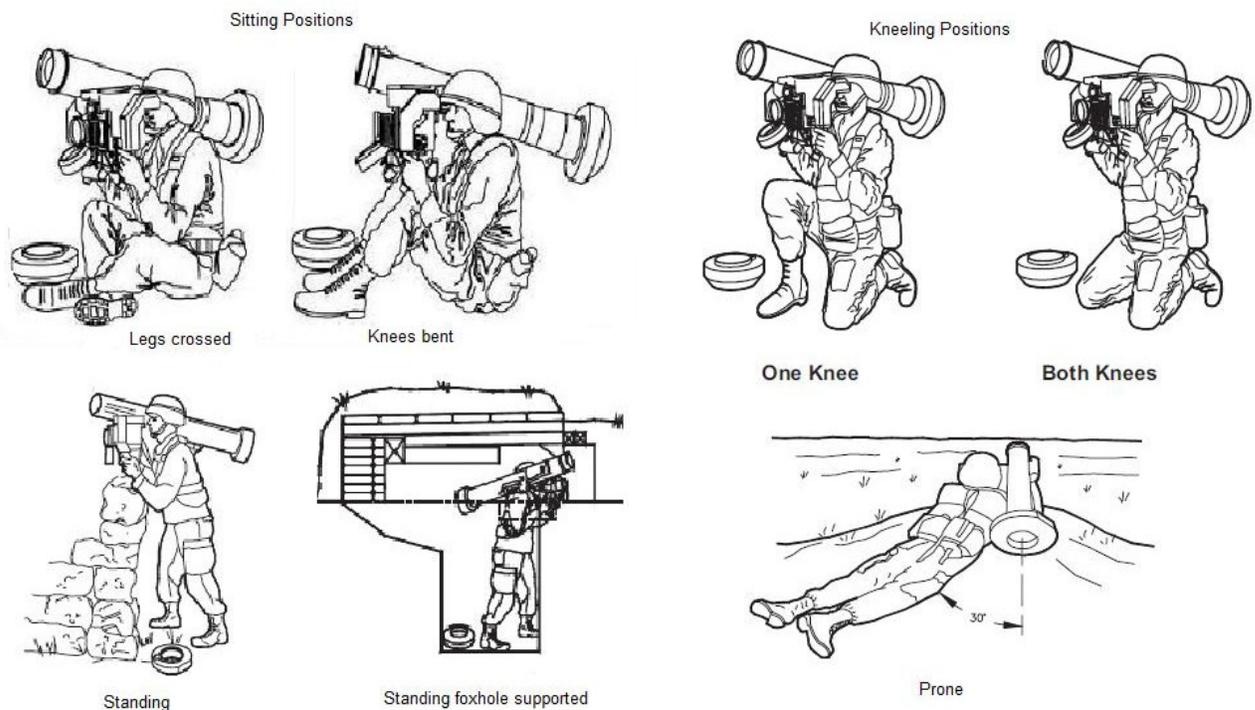

Figure 1. Javelin Firing Positions.
- b. Select the most appropriate firing position (Figure 1).